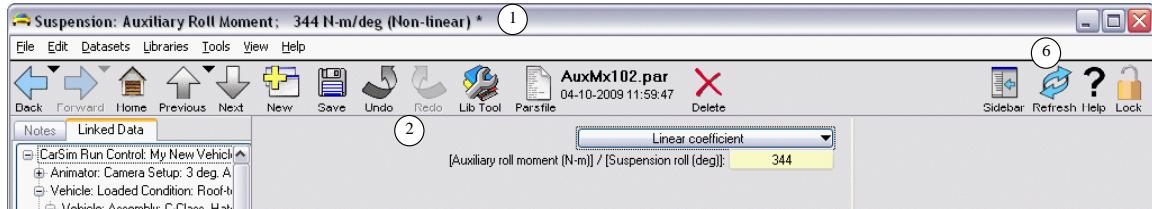

Figure 44. Auxiliary roll moment using a linear coefficient.
- a. The screen immediately updates to show the new representation. If a constant or linear coefficient is selected, the graph and spreadsheet disappear to show a single yellow field with the parameter (Figure 44). If a spline is selected, the data points are shown together with the curved spline. If a 2D table is chosen, the label on the